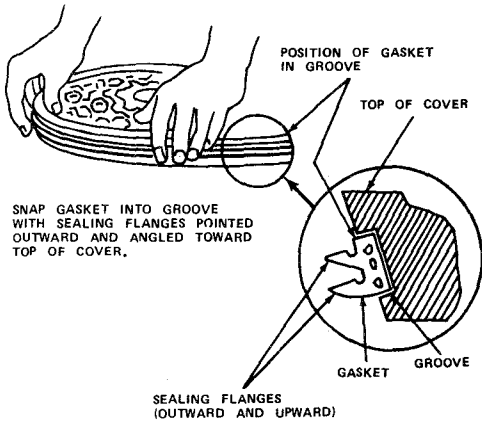

Fig. 41—Replacing C-Type Gasket
- (1) Clean mating surfaces of the cover and the frame.
- (2) Fit the gasket into the groove in the manhole cover rim with the gasket sealing flanges pointed outward and toward top of cover (Fig. 41).